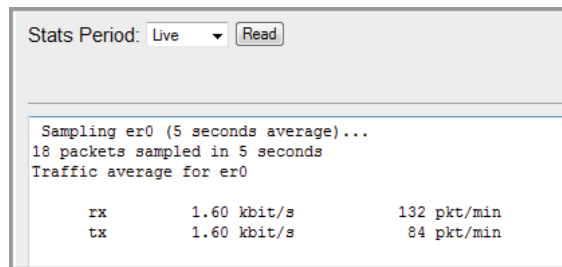

Figure 97 Live Statistics
- Live—This option displays the average transmit and receive data through put in kbps and the number of data packets seen on the radio interface (er0), displayed in packet per minute. See Figure 97.